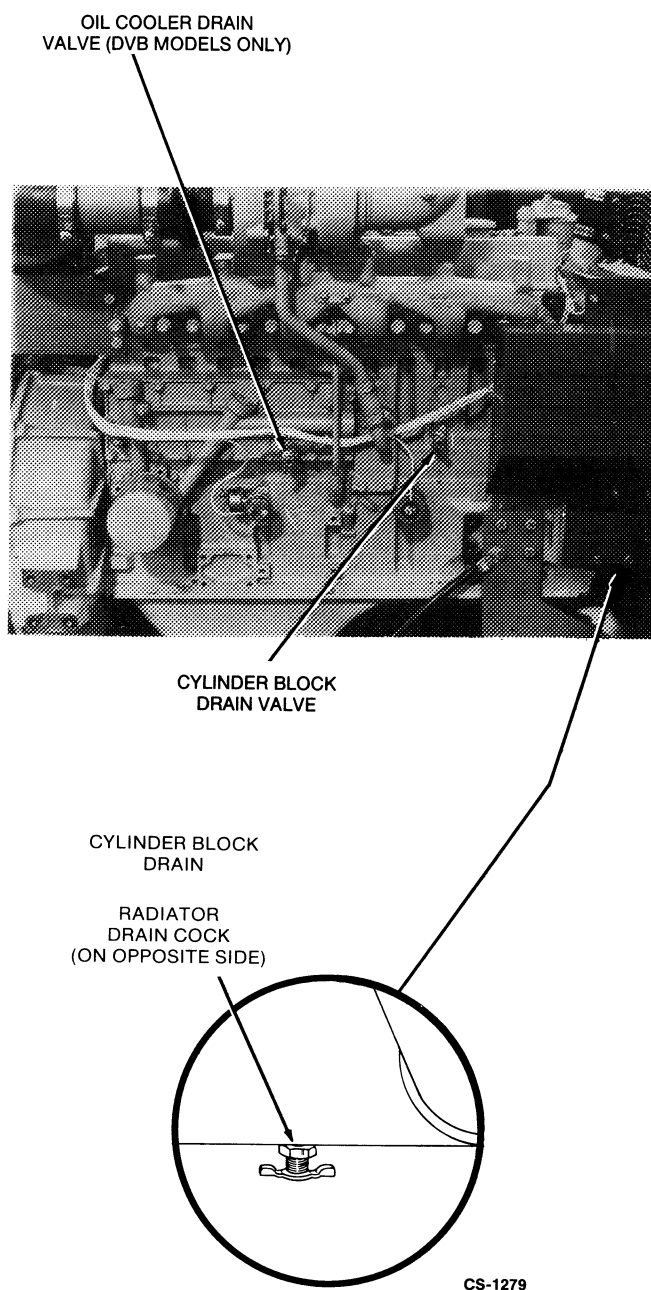

FIGURE 7. COOLING SYSTEM DRAIN LOCATIONS (DVB MODEL SHOWN)
- A. Remove the radiator cap and open the radiator drain valve. See Figure 7.